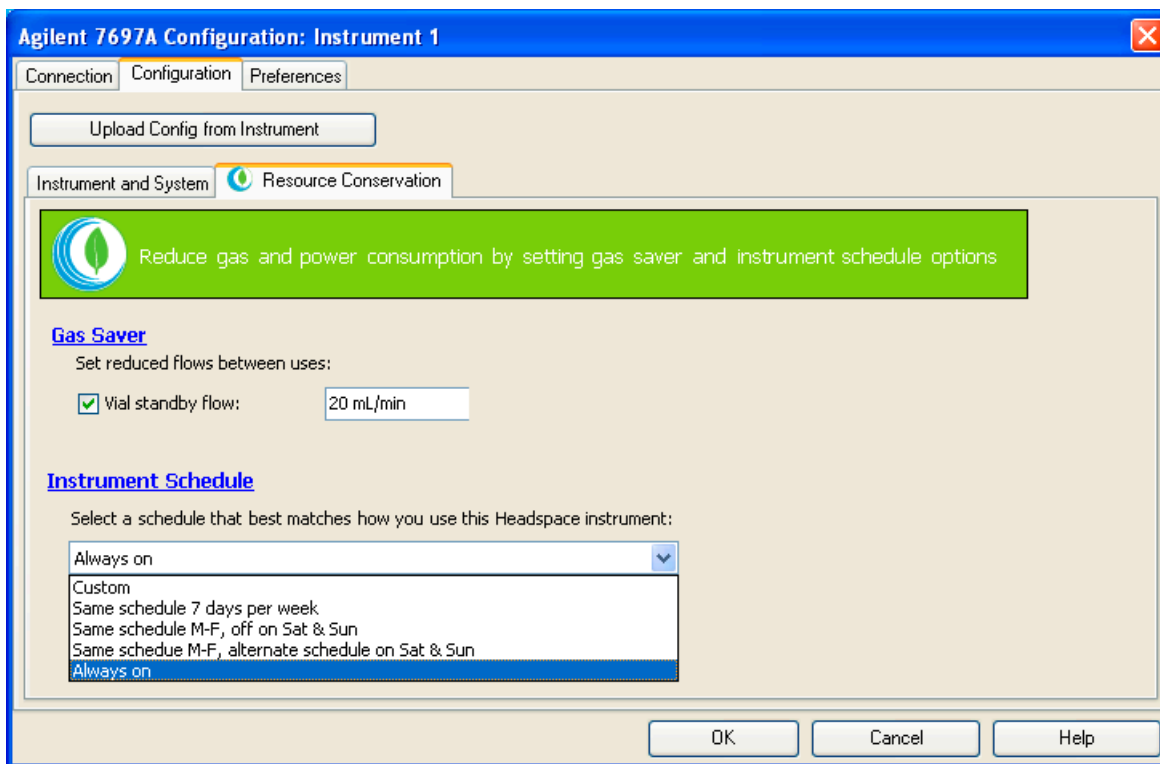

**Figure 10** Setting resource conservation parameters
- 4 Select **Configuration > Resource Conservation** (Figure 10) to configure gas and instrument schedules that can help conserve resources during laboratory downtime.